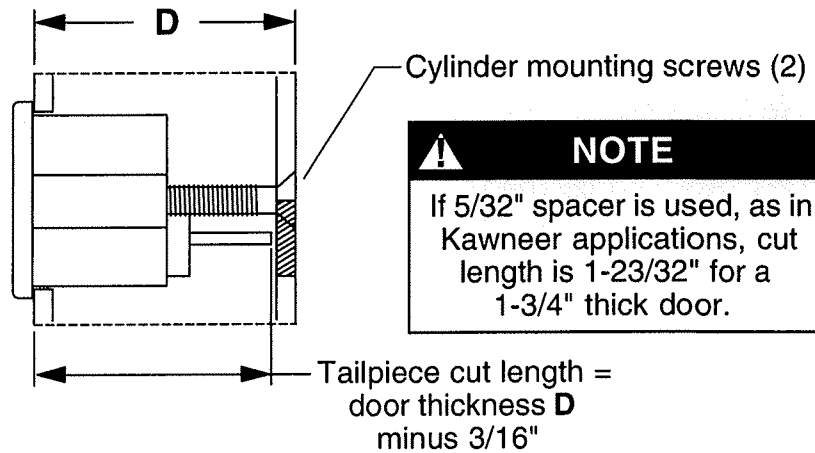

Figure 6-2
- 6.2. Cut cylinder tailpiece to correct length (Figure 6-2).